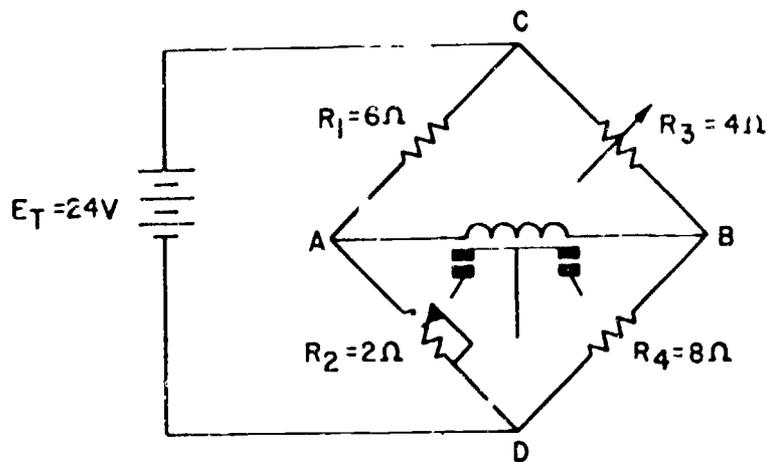

Figure 1.
Refer to figure 1, and answer the following questions on the response sheet
- CORRECT RESPONSES TO FRAME 22: Figure 1: 1. 16v+, 2. 6v+, 3. 10v,